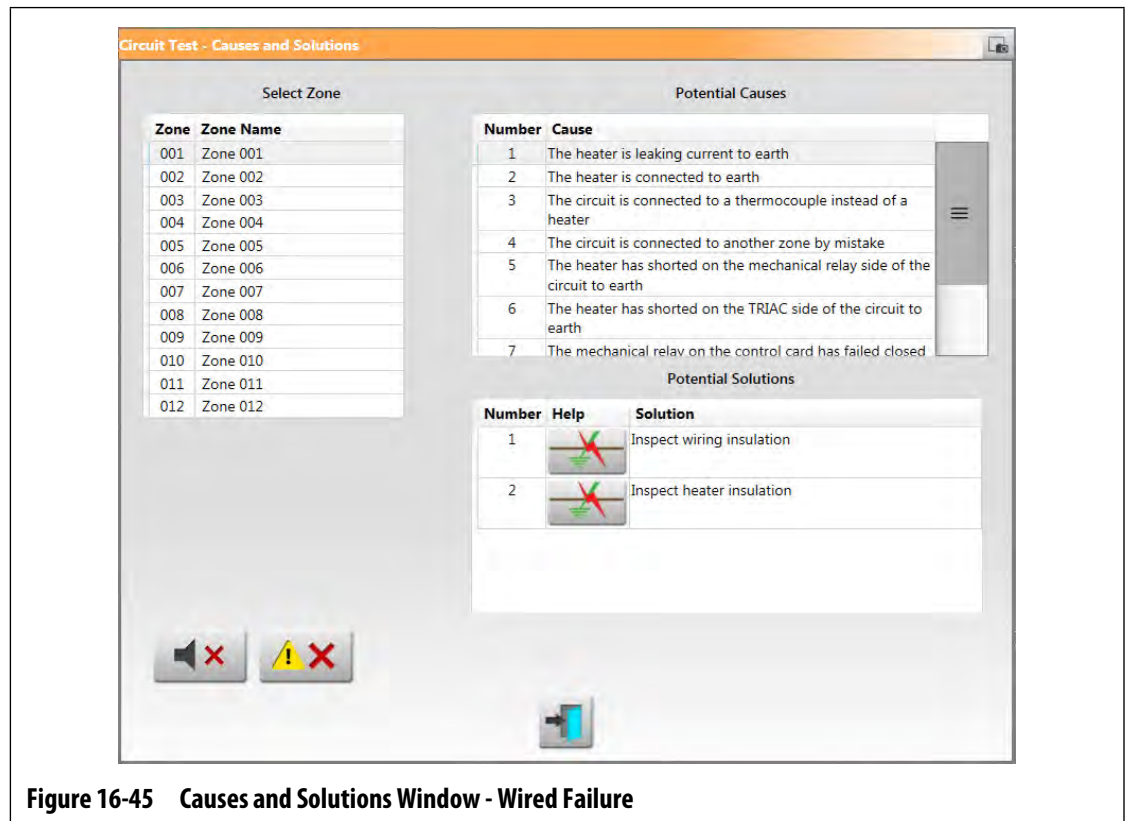
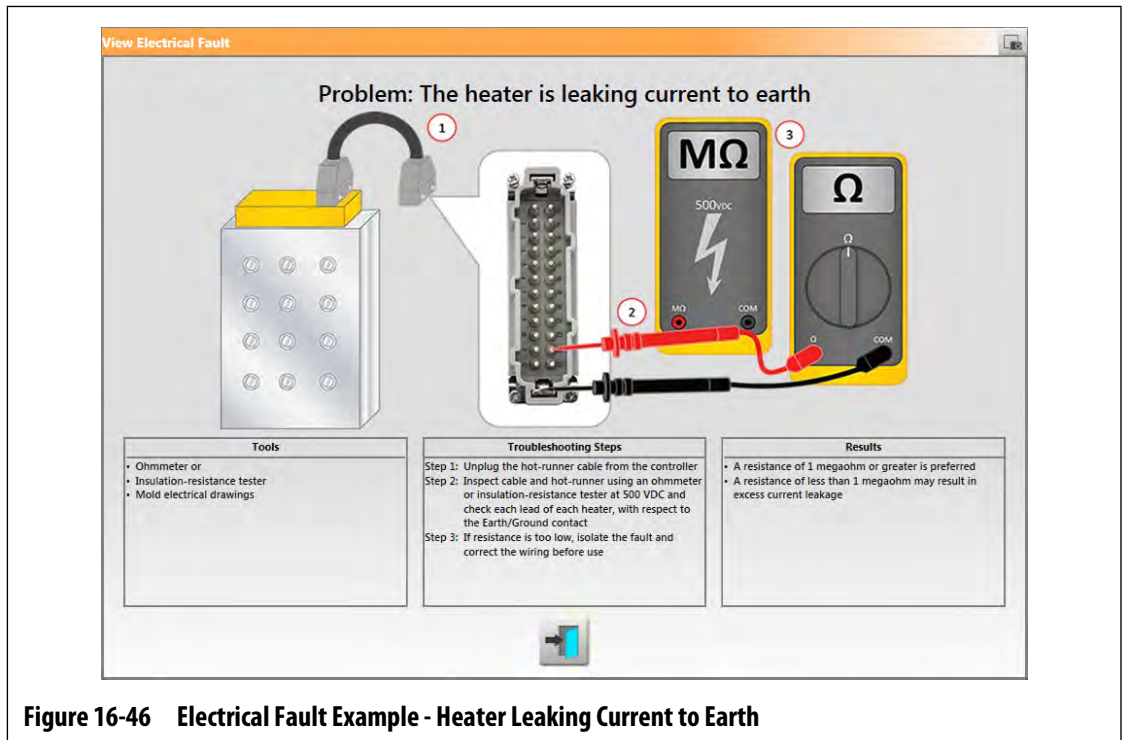

Figure 16-45 Causes and Solutions Window - Wired Failure
Figure 16-46 Electrical Fault Example - Heater Leaking Current to Earth
When the controller does a circuit test, it will stop the system and alert you if failures were detected during the test. The controller shows a window of possible causes and solutions data. Refer to Figure 16-45.
- **View Electrical Fault** - Touch this button to see a picture to help troubleshoot the failure. It also shows a list of tools to use, procedure steps, and the results you should see. The View Electrical Fault button is shown in Figure 16-45. Refer to Figure 16-46 for an example of the troubleshooting procedure window for a “Heat leaking current to earth” failure.